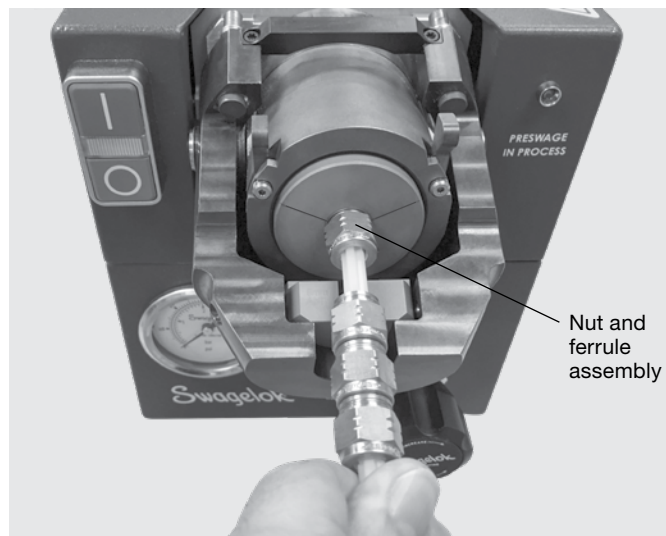

Fig. 13 Loading the Nut and Ferrule Assembly
9. Load the nut and ferrule assembly from the arbor onto the die and raise the retainer up. Fig. 13.